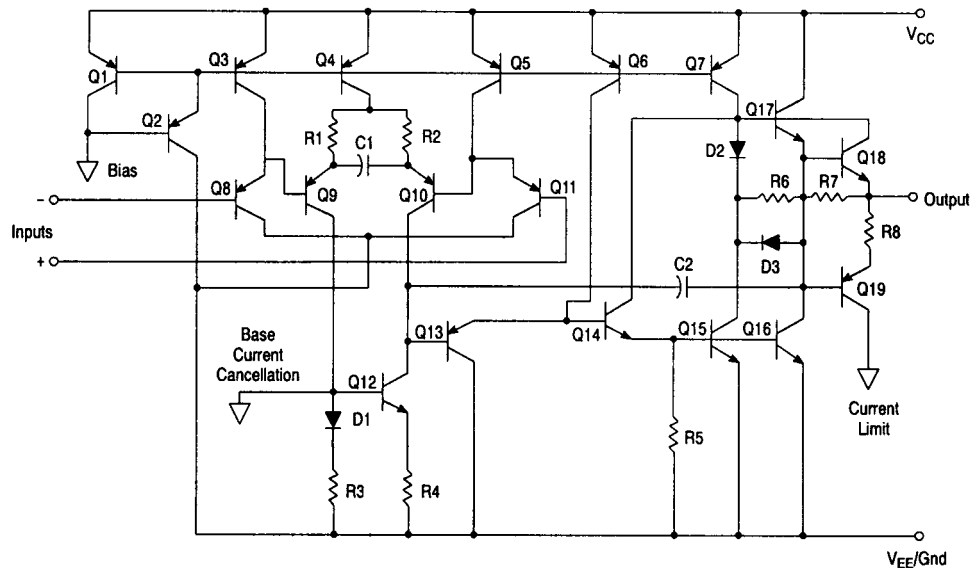

Figure 2. Representative Schematic Diagram
2. Power dissipation must be considered to ensure maximum junction temperature (T_J) is not exceeded. (see Figure 2)